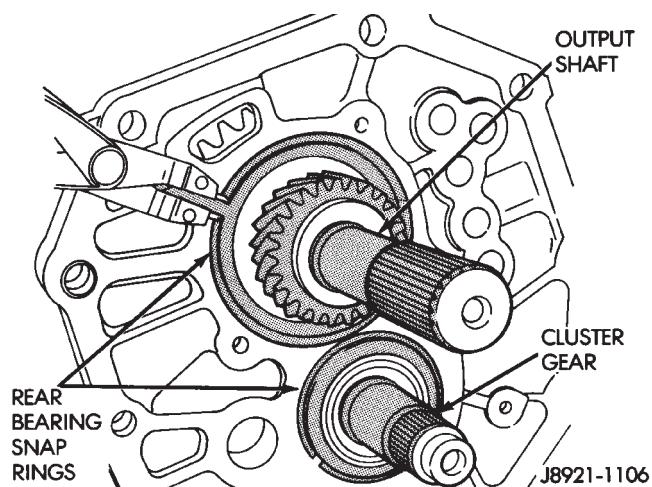

Fig. 82 Installing Rear Bearing Snap Rings
(6) Install snap rings on cluster and output shaft **rear** bearings only (Fig. 82). Do not install front bearing snap rings at this time.